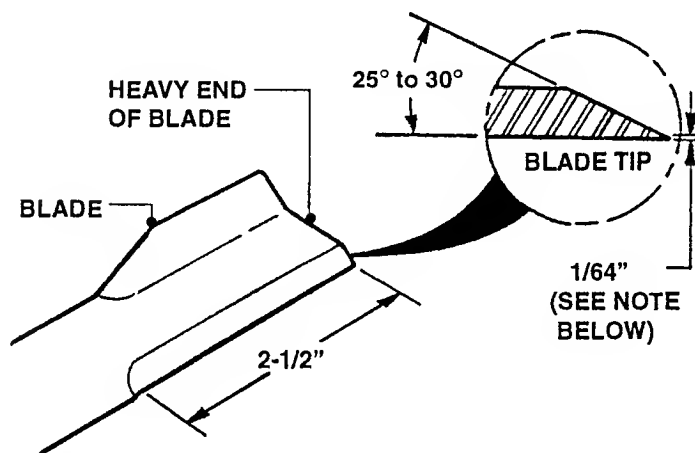

FIGURE 9.2
- D. Should Blades be in acceptable condition, sharpen at 25 to 30 degrees. DO NOT sharpen beyond existing cutting edge. See Figure 9.2.